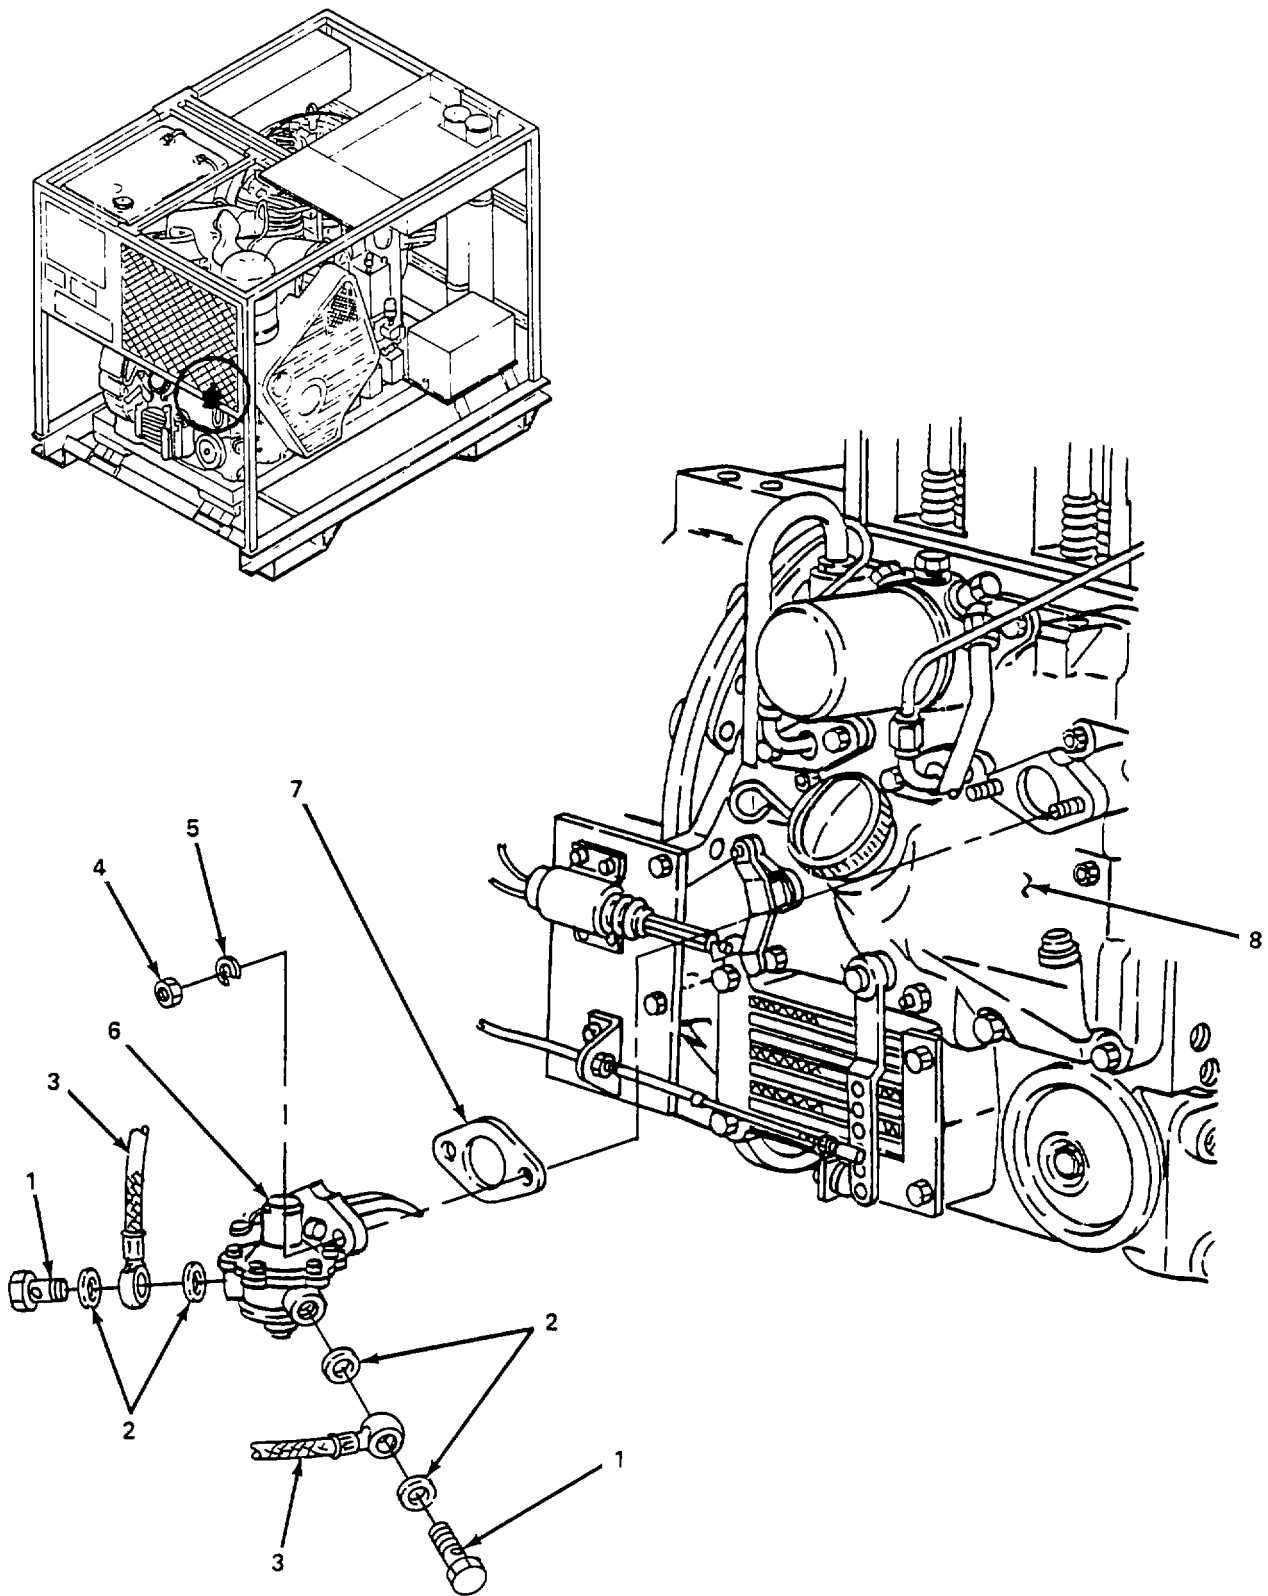

Figure 4-39. Fuel Feed Pump, Replace.
a. Replace. (figure 4-39)
- (1) Remove two banjo bolts (1), four sealing rings (2), and lines (3).
- (2) Remove two nuts (4) and washers (5).
- (3) Remove fuel feed pump (6) and gasket (7).
- (4) Ensure all gasket surfaces are clean and free of old gasket material.
- (5) Install gasket (7) and pump (6) on injector pump (8) and secure with two washers (5) and nuts (4).
- (6) Install two lines (3) and secure with four sealing rings (2) and two banjo bolts (1).